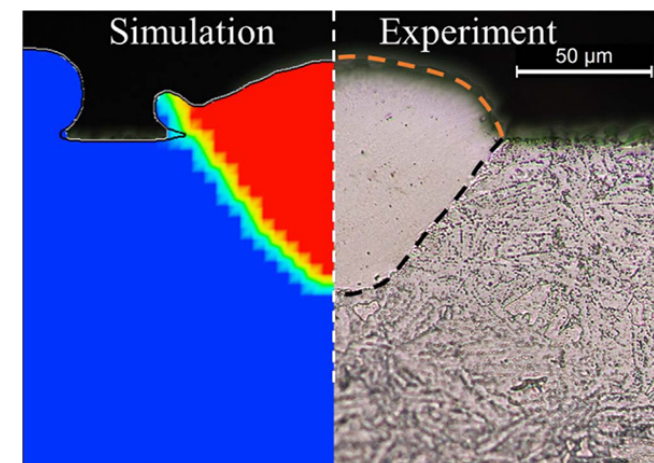

Figure 1: Validation of the melt-pool dimensions (black-dashed line) and the surface morphology (orange-dashed line).
*“A three-dimensional numerical model that incorporates a randomly-distributed powder bed and material evaporation was developed using FLOW-3D to investigate melt pool dynamics with keyhole formation in a laser powder bed fusion process. The discrete element method (DEM) was employed to simulate powder packing, which accounts for the motion of a large number of particles including particle/particle and particle/wall interactions. The model was validated by measuring the particle size distributions in specific areas and ensuring that no powder size segregation occurs. Next the flow behavior of the melt pool is characterized by calibrating parameters in the numerical model to achieve good agreement with the experimental results. The importance of including material evaporation in the numerical model is demonstrated by measuring the melt pool dimensions, which turn out to be narrower and deeper than when evaporation effects are not considered. Moreover, a keyholing effect is observed due to the recoil pressure resulting from evaporation, which affects surface morphology and surface temperatures of the melt pool. As illustrated in Figure 1, the*